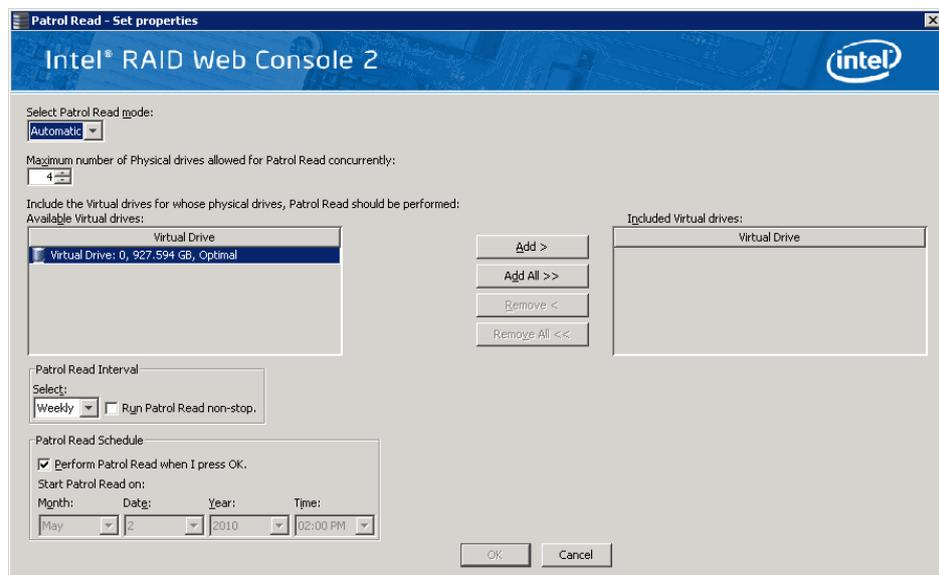

Figure 129. Patrol Read Configuration
2. Select the **Go To -> Controller** tab and click **Set Patrol Read Properties to** display a pop-up window, as shown in Figure 129.
- **Manual:** Patrol Read runs only when you manually start it by selecting **Start Patrol Read** from the controller options screen (see Figure 129).